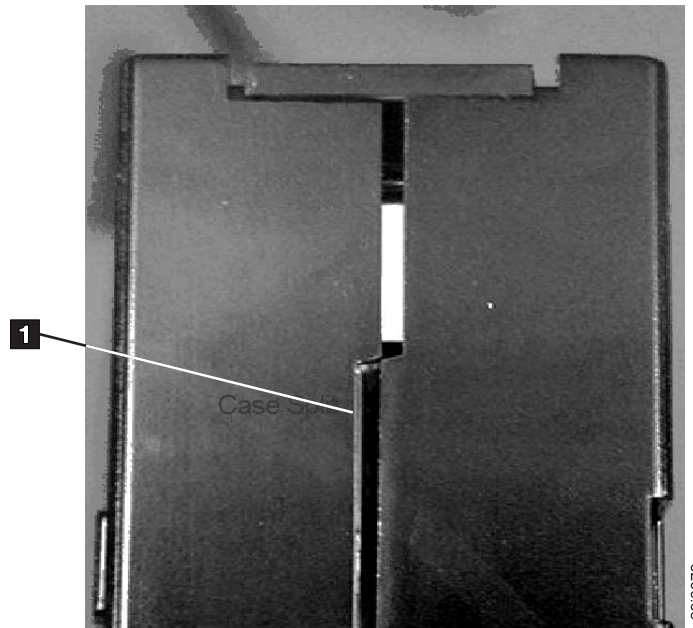

Figure 4-4. Checking for gaps in the seams of a cartridge
- Inspect the rear of the cartridge (the part that loads first into the tape load compartment) and ensure that there are no gaps in the seam of the cartridge case (see **1** in Figure 4-4 and **4** in Figure B-2 on page B-2). If there are gaps in the seam (see Figure 4-4), the leader pin may be dislodged. Go to Appendix B, “Repairing a Cartridge,” on page B-1.